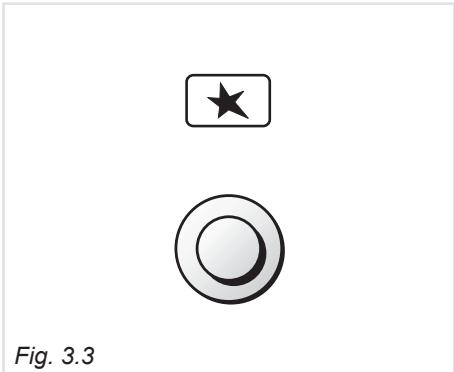

Fig. 3.3
- 2. Press the ignition button marked by the symbol  (fig. 3.3).